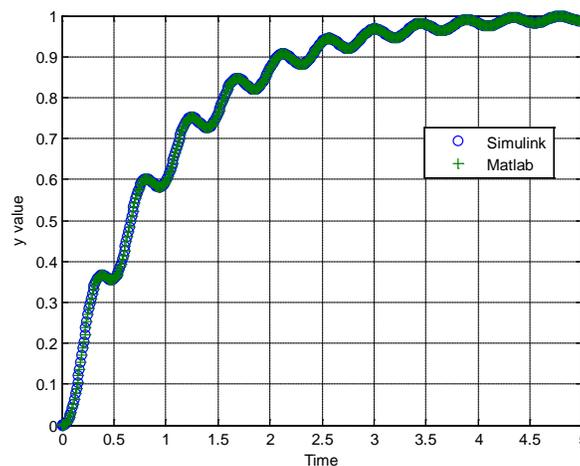

Figure 5. Final results for implementing the feedback control system with the integral controller.
f) Now edit closedloop_driver so you can plot the results from both the Matlab and Simulink results. If you run **closedloop_driver** you should get the results shown in Figure 5. If you do not get this result, you have done something wrong!